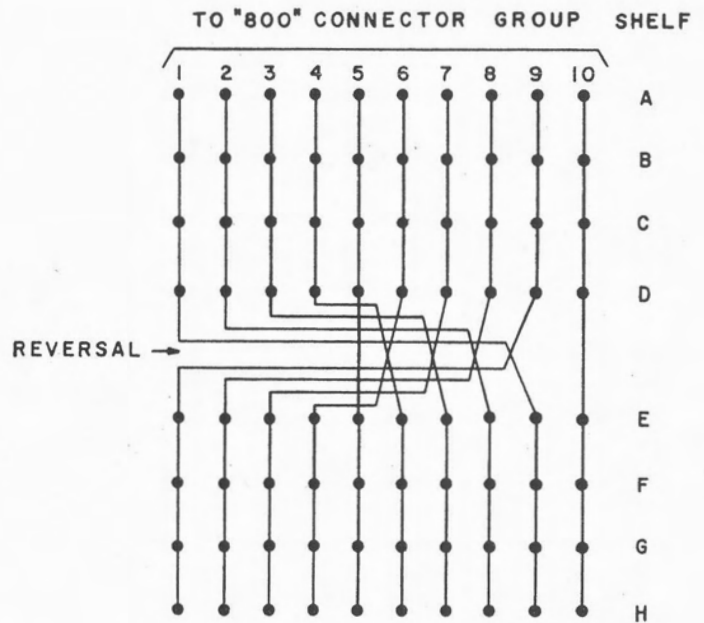

Figure 9. Multiple between the terminal strips of eight shelves with a reversal in first 9 trunks.
**4.1.1 Reversals.** To help balance the connector usage within a shelf, a reversal may be inserted at the mid point of the selector group having access to this particular connector shelf. In figure 9 you will note that all the trunks with the exception of the last have been reversed. The tenth trunk is excluded from the reversal in order to meter how many times selectors must search over all ten contacts on the eighth level attempting to find an idle trunk. Because of the reversal the upper four shelves of the selectors search over the trunks in a 1, 2, 3, 4, 5, 6, 7, 8, 9, 10, sequence, while